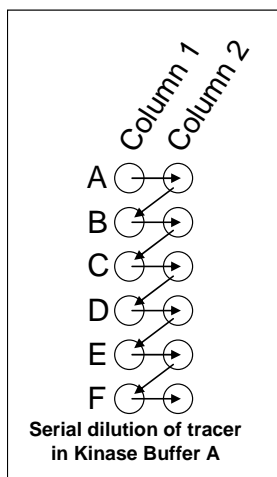

Figure 2. Serial dilution of tracer.
- f. Continue process as depicted in Figure 2.